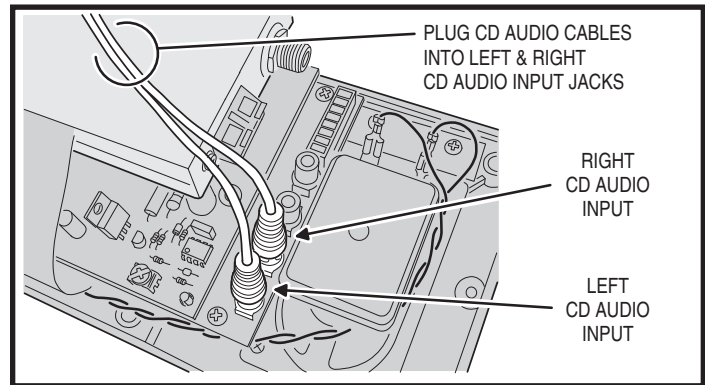

Figure 23. CD Input Jacks on Master Station
3. Insert the CD audio cable's BLACK RCA plug into the CD L jack on the DMC1 Master Station, then insert the cable's RED RCA plug into the CD R jack on the DMC1 Master Station (see Figure 23).